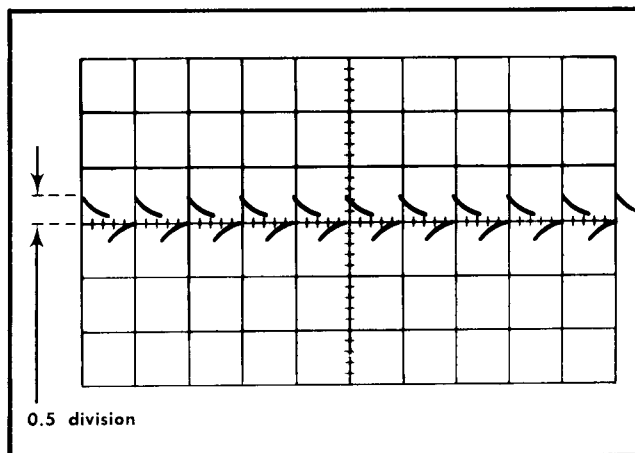

Fig. 5-34. Typical CRT display when checking calibrator current.
- e. CHECK—CRT display 0.5 division in amplitude (five milliamperes; see Fig. 5-34).